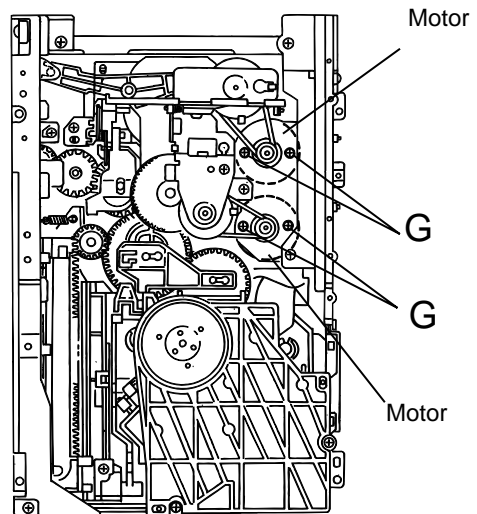

Fig.15
■ **Removing the motors (See Fig.15)**